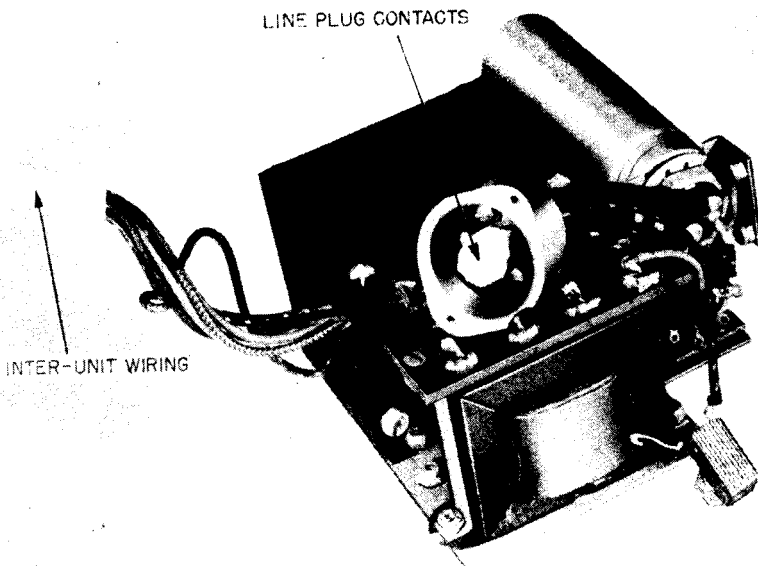

Figure 16. Rectifier RA-20 masked for moistureproofing and fungiproofing.
(7) Interunit wiring. (See fig. 16.)
(8) Line plug contacts. (See fig. 16.)
g. **VARNISHING.** (1) Apply three coats of moistureproofing and fungiproofing varnish (Lacquer, Fungus-resistant, Signal Corps stock No. 6G1005.3, or equal). Allow each coat to air-dry for 15 or 20 minutes before applying the next coat.